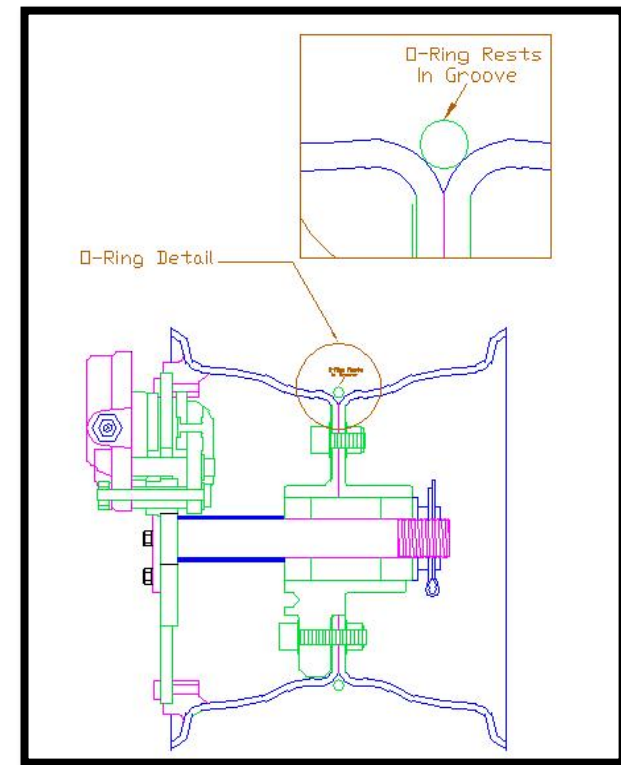

Figure 3
1. Inspect the rim face at the radius where the O-ring will seat, for deep scratches, nicks or imperfections. Smooth out any imperfections with a medium grit emery cloth. (Fig. 3)